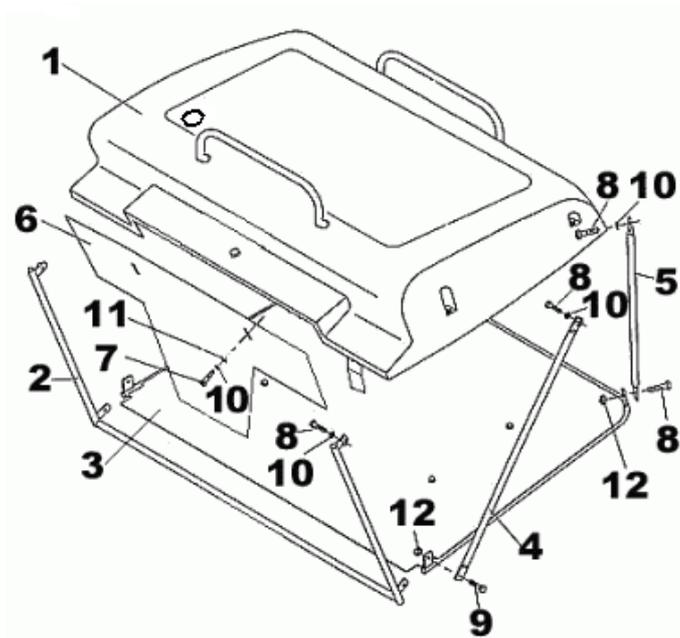

Fig.2
### Assembly of storage bin – Fig.2
1. The assembly of the storage bin is performed according to Fig. 2 and the list of parts of the grass storage bin.
3. Place the cap of the storage bin pos. 1 on the paper. Spread the fabric for the easy assembly of bolts.
4. Screw the curtain to the cap pos.6. Push the curtain to the cap to the stop.
5. Screw parts. pos. 5,4,2, so that the free ends pos. 5,4,2, are approximately in the area. For pos. 4 and 2 the holes are in one axis.
6. Place the frame of the bottom pos.3 with the feet to the free ends of positions 5,4,2,. Then screw.
7. Lift the fabric and insert the locks of the fabric into pos. 2 and 3.
9. Place the storage bin on the guiding according to Fig.2 and check the tightening of the fabric and the placement of the storage bin in the closed position!